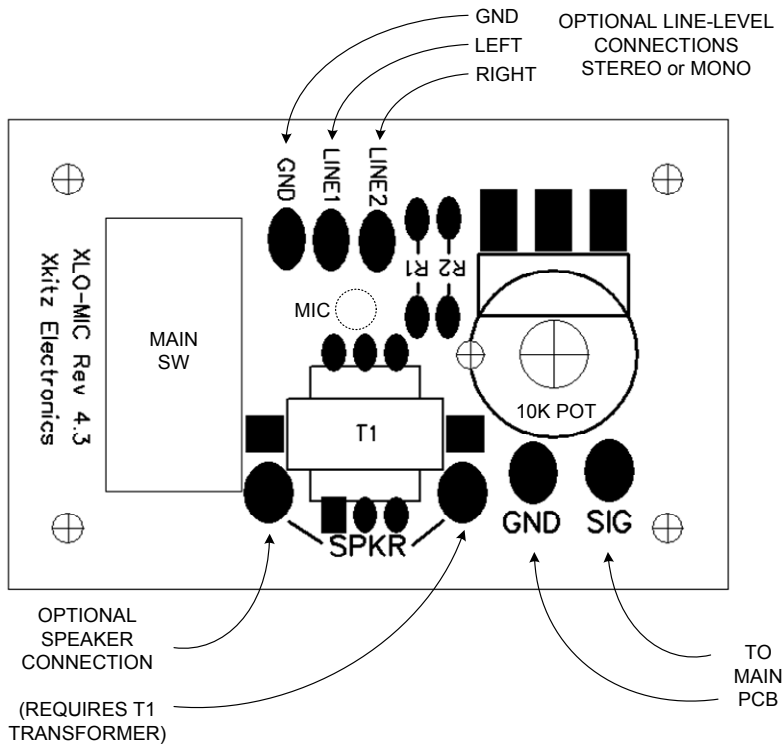

Figure 2. Front Panel Diagram (shows optional line-in and speaker connections)
This board is designed to be used as a decorative front panel that you can mount on your light organ enclosure. It contains the condenser microphone, the primary sensitivity adjustment pot, and the main ON/OFF switch. Refer to Figure 2 below for component orientation.
- For line-in: install the two 33K resistors in R1 and R2. See Figure 2 for wiring of the line input(s). Connect just one for mono, or both for stereo left and right.
- For speaker input: install the 100K resistor in R1, leave R2 empty. Solder your audio transformer in position T1 (not included in the kit by default, contact Xkitz for info on the transformer) Transformer primary should connect to the square pad pin 1. See Figure 2 for wiring of the speakers inputs.